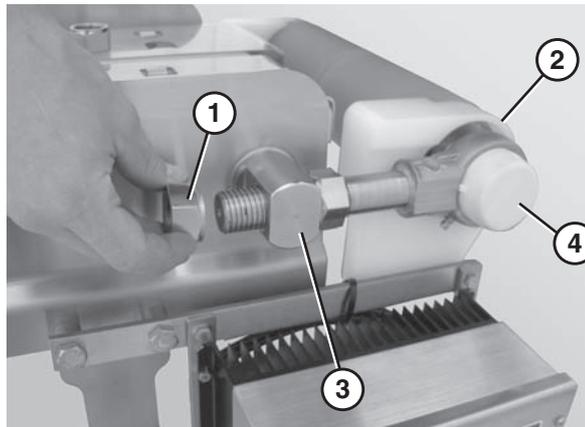

Figure 66
- Remove the back nuts (Figure 66, item 1) on both idler tail shafts.
- Slide the idler tail assembly (Figure 66, item 2) out of the take up blocks (Figure 66, item 3).
- Remove the bearing covers (Figure 66, item 4).